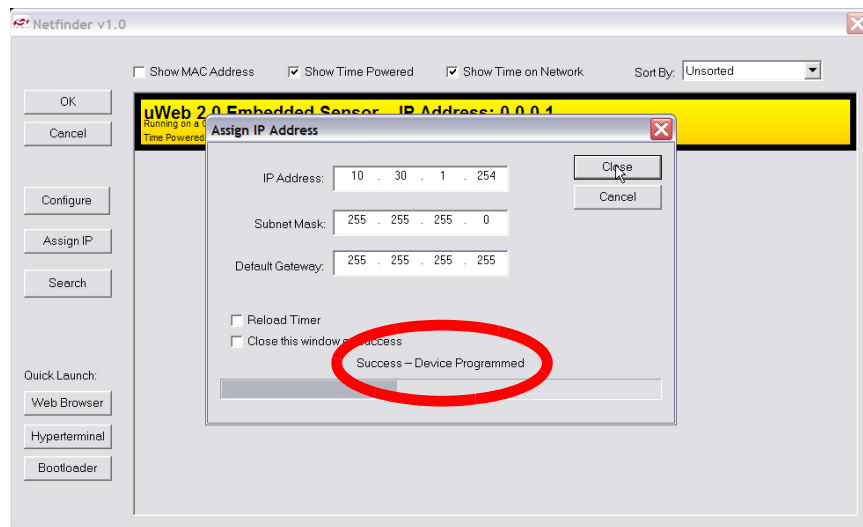

Figure 6. Assign IP Address Dialog
- Enter the IP address, subnet mask, and default gateway (if known) into the 'Assign IP Address' dialog and press **OK**. See Appendix A for information on how to configure the PC with a static IP address and how to select a static IP address for the CP2201EB. A windows command line window should appear, ping the device at its new address, then close. Programming is successful when the progress bar stops and gives the message "Success - Device Programmed" as shown in Figure 6.